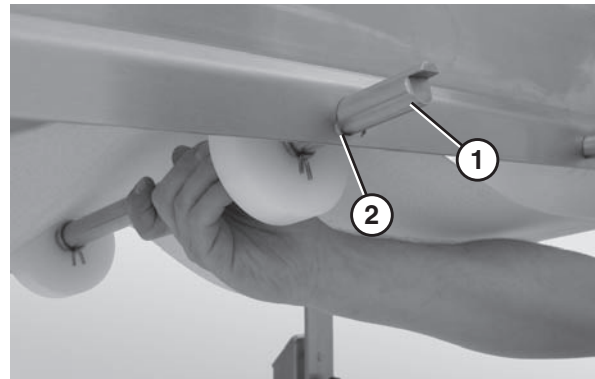

Figure 26
1. Slide the return shaft (Figure 26, item 1) up and through the large slot (Figure 26, item 2) in the frame.